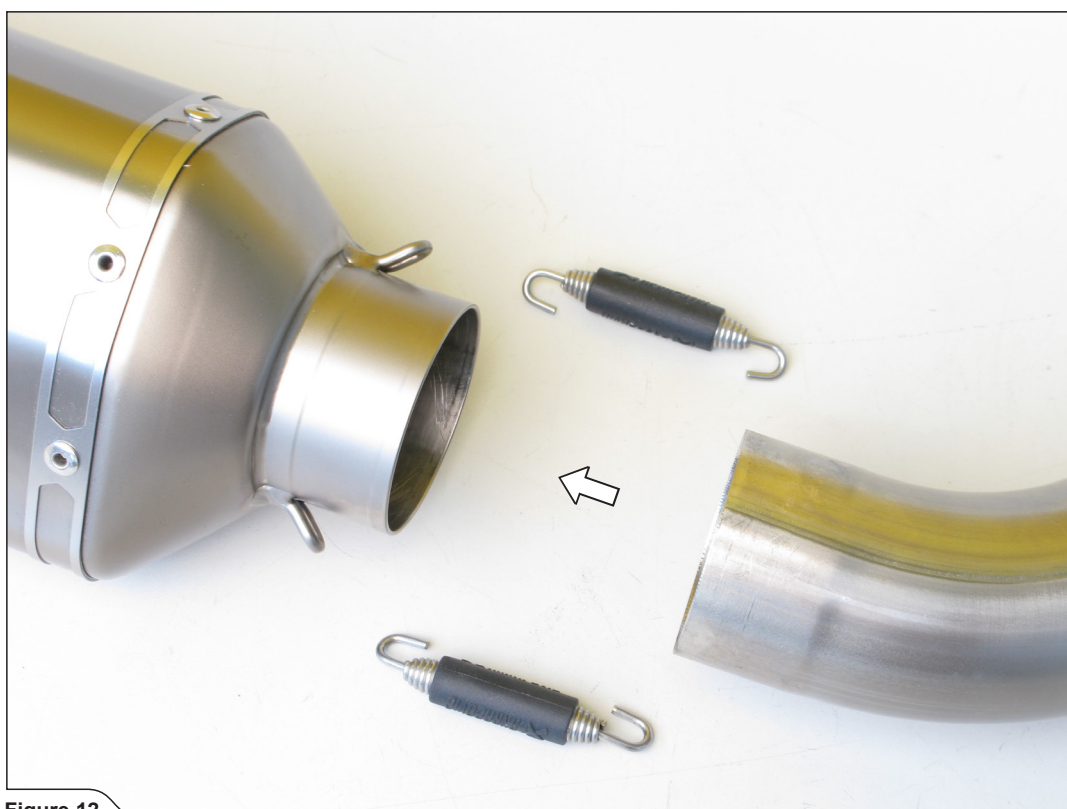

Figure 12
4. Assemble the link pipe with the muffler and attach the springs (**Figure 12, 13**).